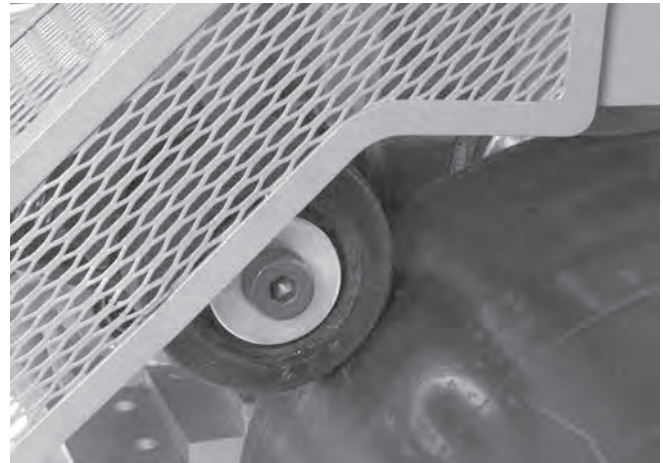

Figure 17 – Adjusting Stabilizer
3. Tighten stabilizer until roll contacts pipe. Continue to tighten stabilizer one to one and a half turns after contacting the workpiece (*Figure 17*).